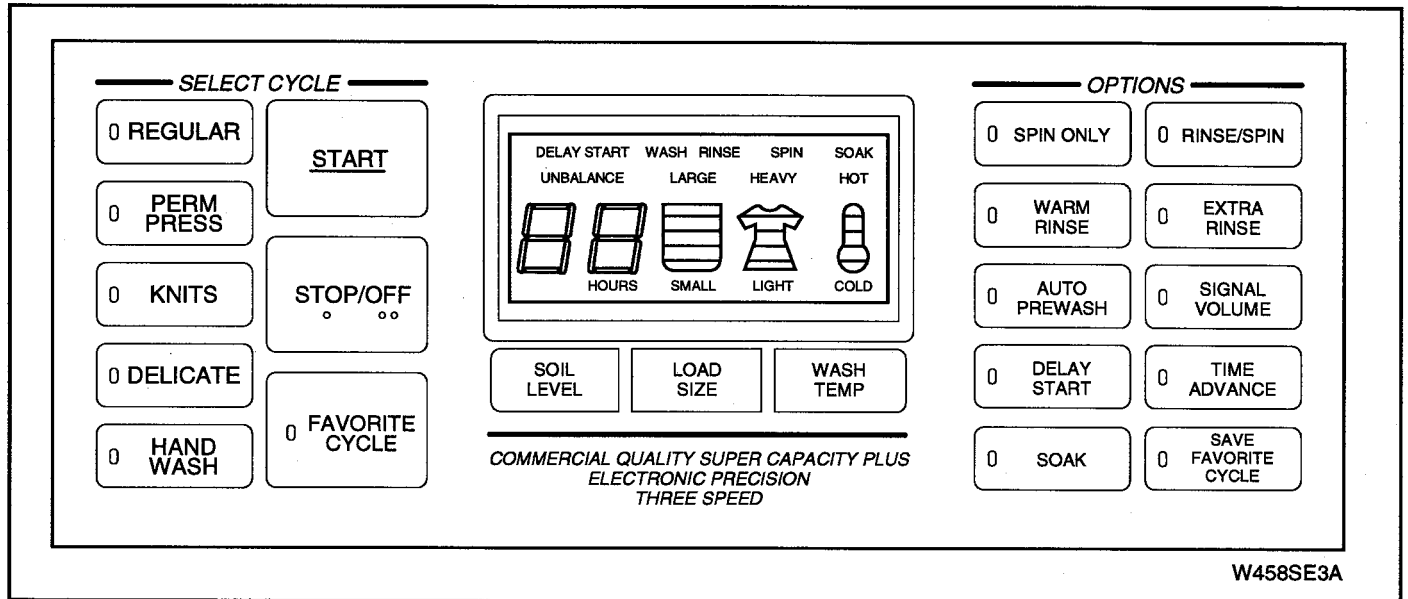

Figure 9-3
**IMPORTANT:** This procedure is intended to be used as an aid in diagnosing potential problems with electronic control. See Figure 9-3. Refer to SECTION III (Troubleshooting) for diagnosing problems with components other than electronic control. For terminal numbers, connections and color coding see Figure 9-4.
2. Start in idle mode, all LED's (Light Emitting Diodes) off. See Figure 9-3.
3. Press SIGNAL VOLUME pad down and hold. See Figure 9-3.
4. Now press START pad down and release all pads when sequence starts. See Figure 9-3.
1. This test routine will only light LED's (Light Emitting Diodes) pertaining to hardware model selected. The LED lights are located to the left of the SELECT CYCLE and OPTIONS pads. See Figure 9-3.